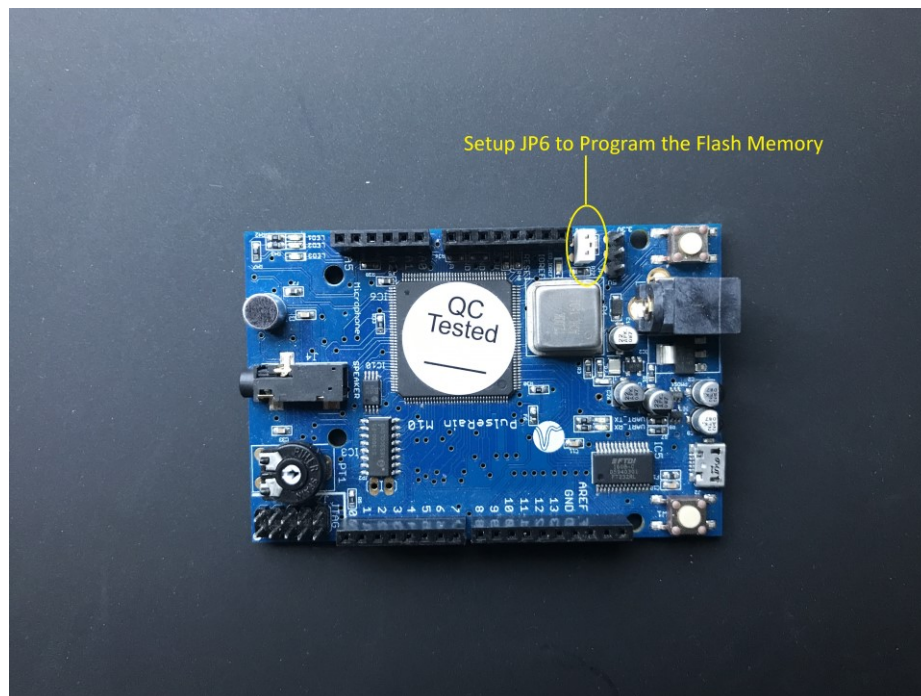

Figure 2-11 Set JP6 to Program the Flash Memory
- 2) Put a jumper on JP6, as illustrated in Figure 2-11.